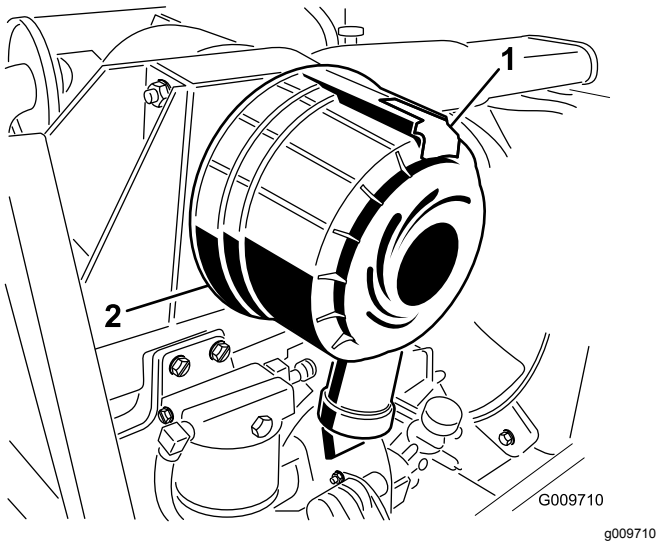

Figure 55
1. Pull the latch outward and rotate the air-cleaner cover counterclockwise (Figure 55).